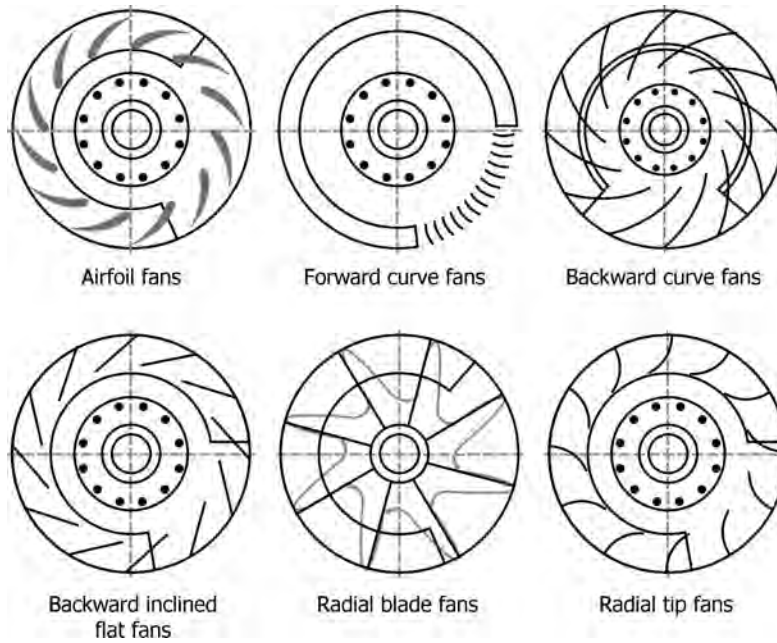

FIGURE 5.36 Types of fans.
- Figure 5.36 illustrates different types of fans.